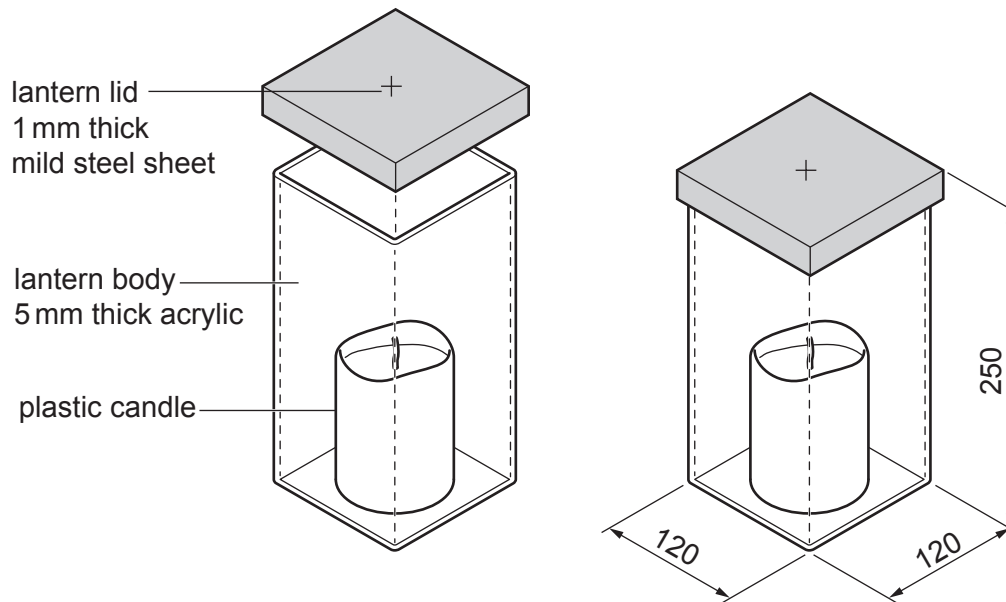

Fig. 11.1
- 11 Fig. 11.1 shows views and details of a garden lantern.